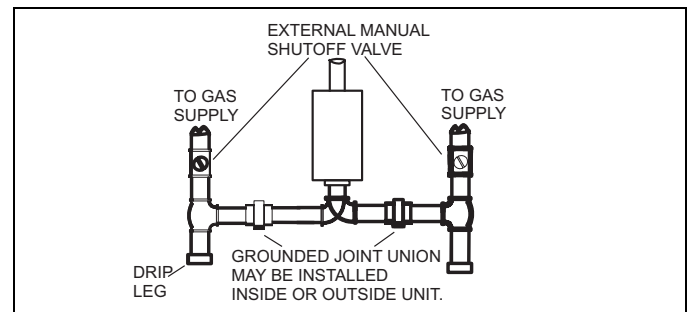

FIGURE 5: Gas Piping
**Should overheating occur, or the gas valve fail to shut off, turn the external manual gas valve in the gas supply line to the furnace to the "off" position and let the furnace cool off before shutting off the electrical power supply. Refer to Figure 5.**